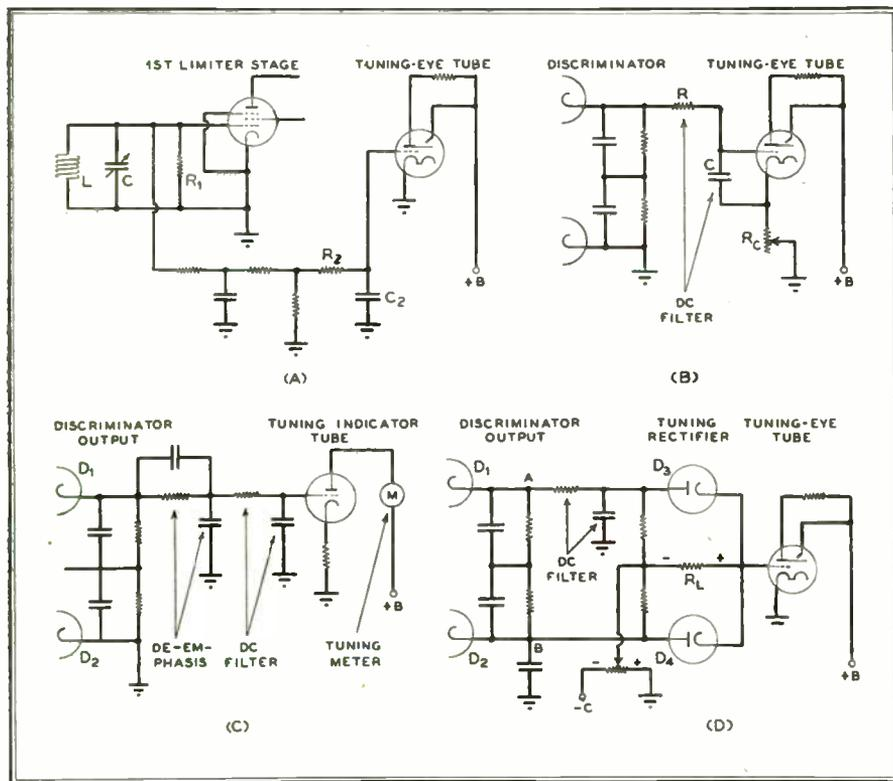

FIG. 68. FOUR TYPES OF TUNING INDICATOR CIRCUITS USED IN FM RECEIVERS
Fig. 68 (B) and 68 (C) show two tuning indicator circuits actuated by the DC component of the discriminator output, which appears whenever the center frequency of the signal applied at the discriminator differs from the resonant frequency of the discriminator tuned circuit.
In Fig. 68 (B), the DC component of the discriminator output voltage is isolated by means of a DC filter RC , and is applied to the grid of a tuning-eye tube. The tuning-eye is adjusted by means of a variable cathode resistor R_c , so that the eye just closes when there is zero voltage at the discriminator output. A convenient way to make this preliminary adjustment is to remove the last limiter tube temporarily, while adjusting R_c to make the eye close.
Fig. 68 (C) shows a circuit operating on the same principle as that of Fig. 68 (B), except that a tuning meter is employed instead of a tuning-eye. Tuning is accomplished by bringing the meter indicator to a reference mark on the meter scale.
While the indicator circuit in Fig. 68 (B) has the advantage of being operated from the discriminator stage, an ob-
Fig. 68 (A) shows a tuning-eye indicator circuit controlled by DC voltage taken from the grid leak of the first limiter stage. As the receiver dial is tuned *toward* the setting for the station, the beat frequency created by the signal and oscillator frequencies approaches the intermediate frequency of the receiver, to which the IF amplifier, limiter, and discriminator circuits are resonant. This causes the RF voltage across the limiter tuned circuit condenser C to rise, creating a large DC voltage across grid leak R_1 . This DC voltage is applied by way of DC filter R_1C_2 to the grid of the tuning-eye tube in negative polarity, and causes the shadow angle to diminish.
A practical circuit arrangement employed in FM receivers designed to tune over a range of frequencies is shown in Fig. 68. Here the oscillator frequency at any particular dial setting is half the difference between the signal frequency for that dial setting and the second IF.